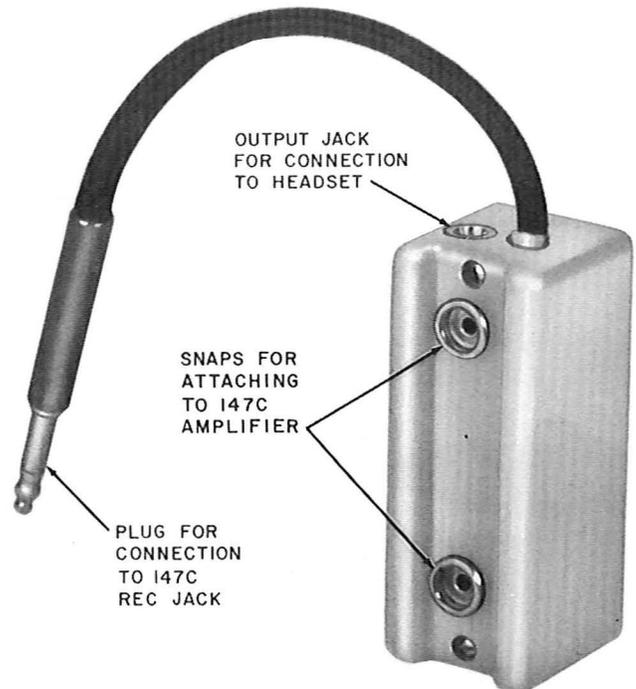

Fig. 1—1097A Filter
**1.01** The 1097A filter (Fig. 1) is a narrowband filter designed for use with the 147C amplifier. This permits toning and pair identification where noise or power influence is a problem. The 1097A filter will filter out power line interference and other electrical noise while amplifying the test tone.